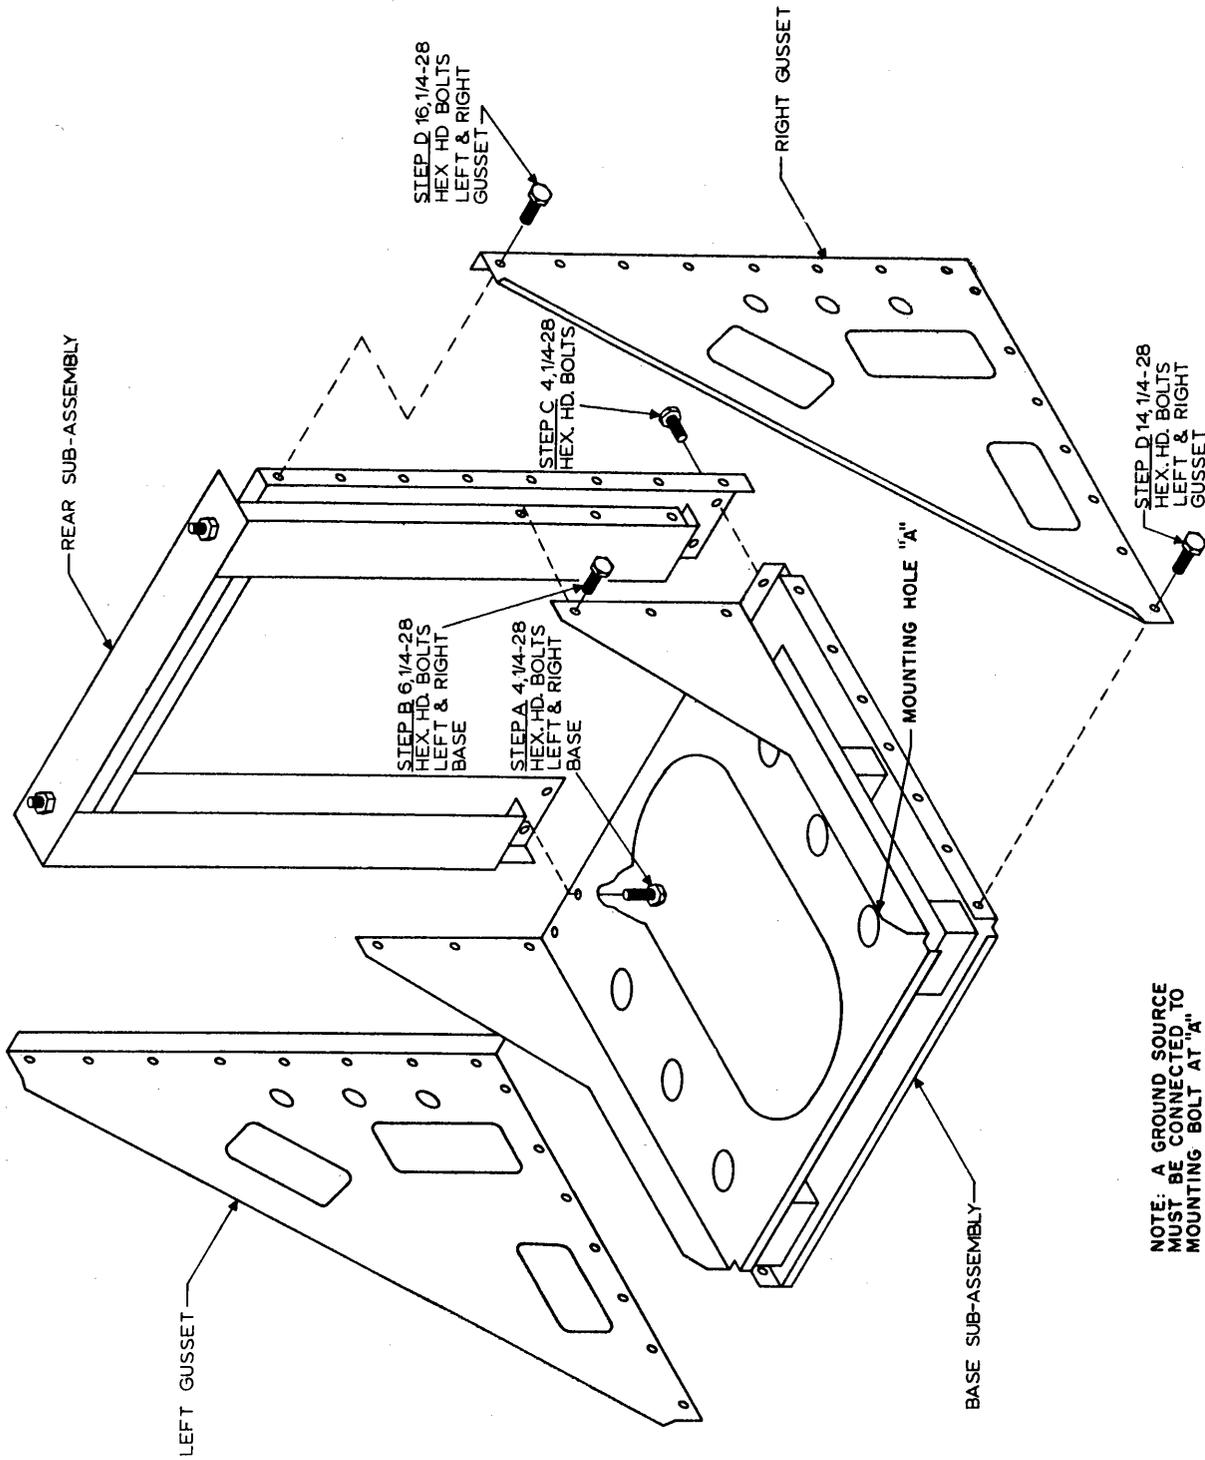

Figure 2-7. Mounting MT-2293A/WRR-2, Assembly Details
For safety of personnel, cabinet must be grounded. For AN/WRR-2A receiver, mounting bolt (see figure 2-7) grounds to a metal table. A wood table will require a ground wire. For AN/FRR-59A receiver, flange plates ground cabinet to rack which in turn must be grounded.
b. MOUNTING CRADLE (FOR AN/WRR-2A ONLY). (See figure 2-7.)—Mounting MT-2293A/WRR-2 consists of a base, a back, and two side gussets for support. It is shipped disassembled in its own carton. Assembly and mounting procedures are as follows:
(a) Stand the rear subassembly at the rear of the base, as shown in figure 2-7. Insert four bolts upward through the tray of the base. Install four elastic stop nuts and tighten slightly.